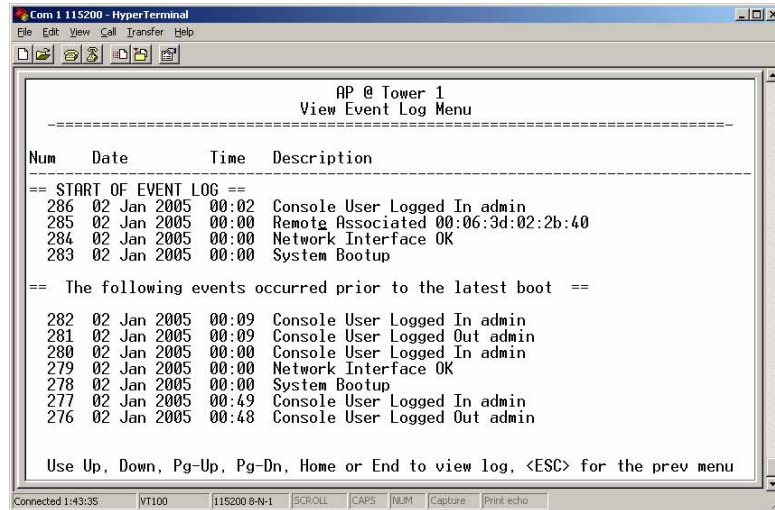

Figure 3-75. View Event Log Menu
- ⌘ **View Event Log** Displays a log of radio events arranged by event number, date, and time. (Example shown in Figure 3-75 on Page 105).